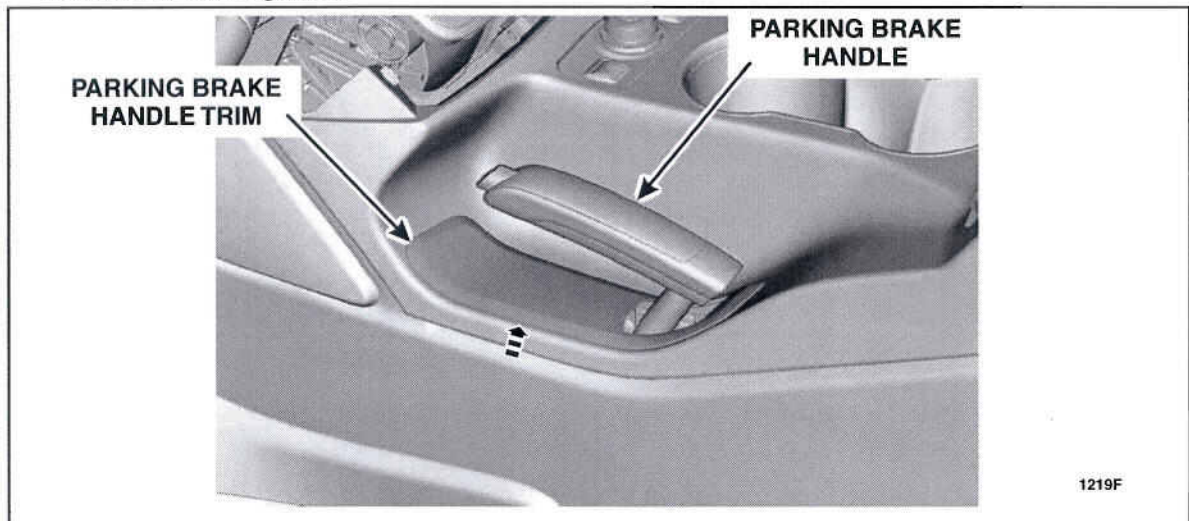

FIGURE 3
4. Position the parking brake handle upward and use a suitable trim tool to remove the parking brake handle trim. See Figure 3.
12. Install the parking brake handle trim and position the parking brake handle downward. See Figure 3.